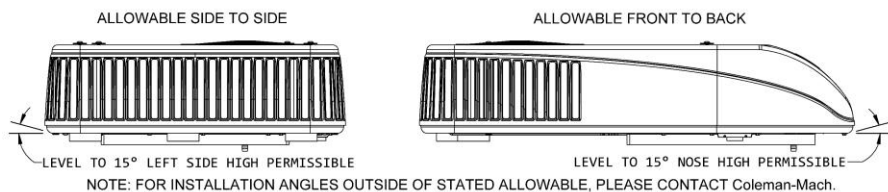

FIGURE 3
C. The rooftop unit must be mounted as near level front to rear and side to side as possible when the vehicle is parked level. Figure 3 shows the maximum allowable degree deviations mounting degrees from total surface flat plane).